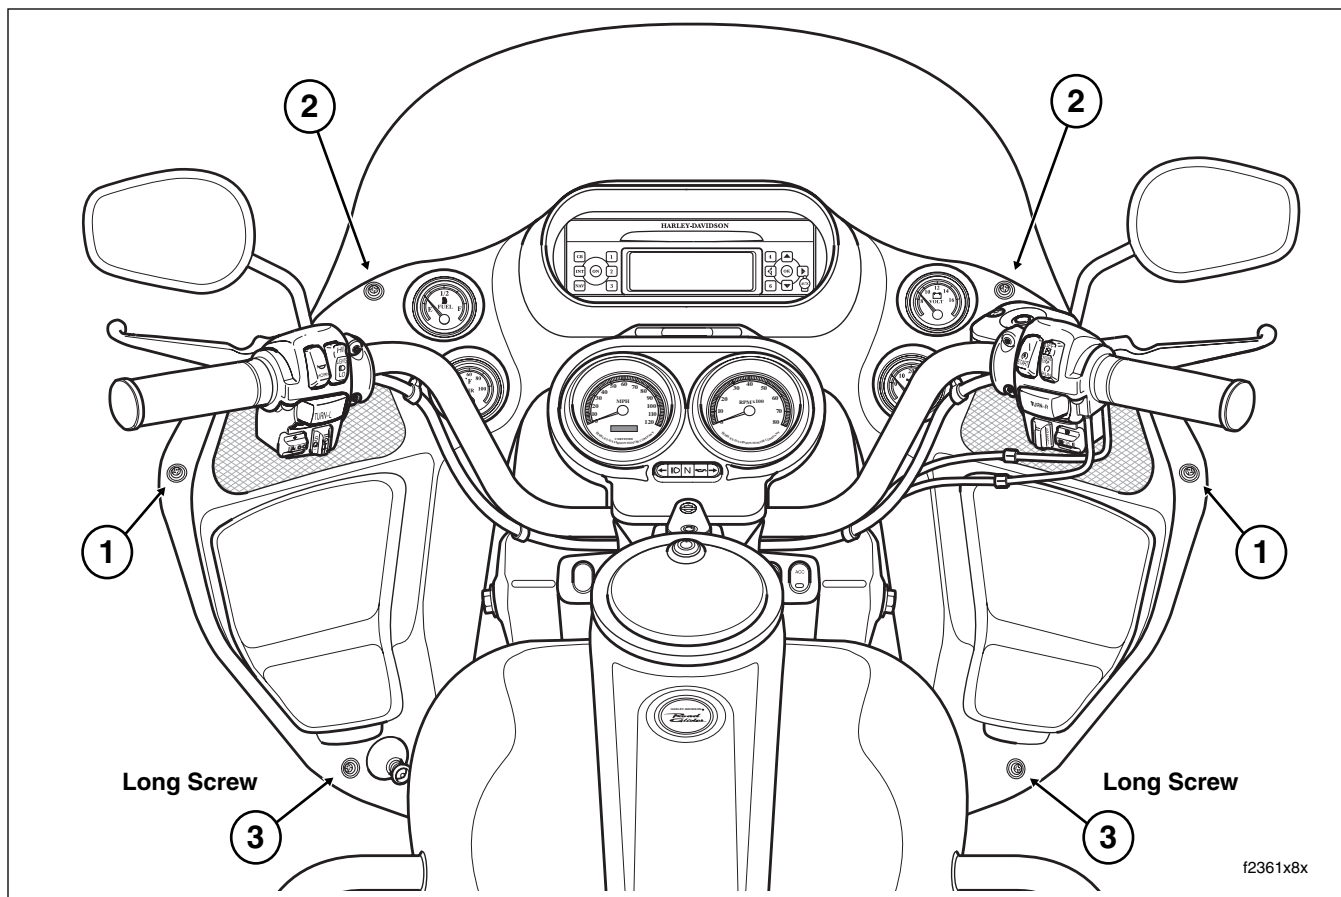

Figure 2-173. Remove/Install Six Outer Fairing Screws
2. Obtain ratchet and T25 TORX head bit. Standing on left side of motorcycle, remove screw at edge of fairing outboard of the left speaker. See Figure 2-173. Remove screw outboard of the right speaker.
10. Alternately tighten four short fairing screws to 6-12 **in-lbs** (0.7-1.4 Nm). Alternately tighten two long fairing screws to 10-15 **in-lbs** (1.1-1.7 Nm). Use the torque pattern shown in Figure 2-173.